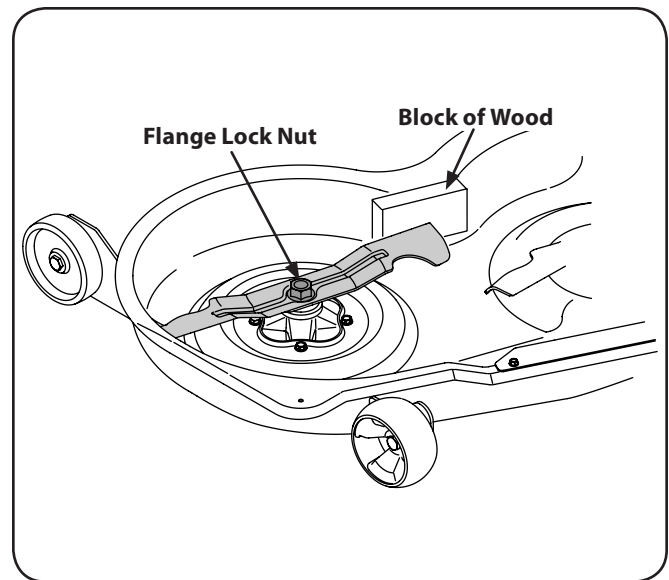

Figure 7-5
- Place a block of wood between the center deck housing baffle and the cutting blade to act as a stabilizer. See Fig. 7-5.
- Remove the flange lock nut that secures the blade to the spindle assembly. See Fig. 7-5.